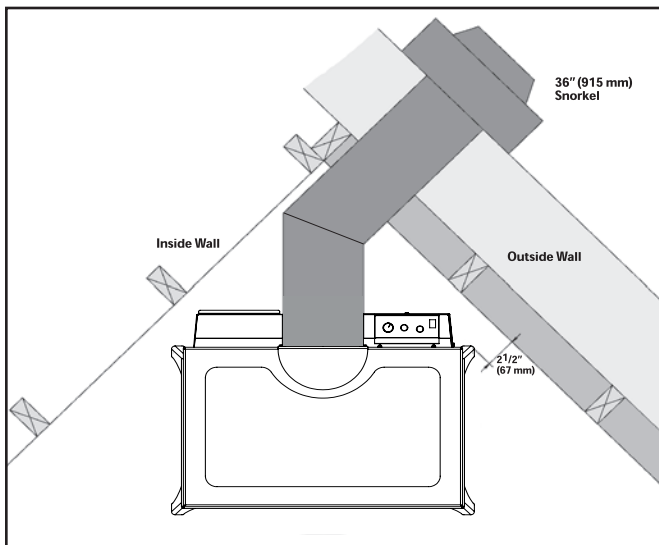

Figure 35: Corner installation rear vented with snorkel.
5. Using tin snips, cut the "Support Box" from the top corners down to the roof line, and fold the resulting flaps over the roof sheathing (Figure 35). Before nailing it in to the roof, run a bead of non-hardening mastic around the top edges of the "Support Box", to make a seal between the box and the roof. Clean out any combustible material from the inside of the "Support Box".